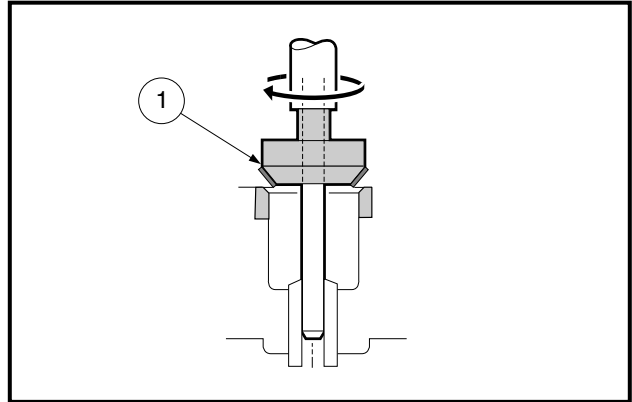

Figure 2-21 Resurface Valve Seat
2. Recondition the valve seats with a valve seat cutter (1) (45° x 32 mm exhaust seat CCI P/N 1016553, 45° x 35 mm intake seat CCI P/N 1016554) (**Figure 2-21, Page 2-13**).
- 2.4. Resurface the valve seats with 45° cutter (1) (32 mm exhaust seat), and (35 mm intake seat) cutters, removing only enough material to produce a smooth and concentric seat (**Figure 2-21, Page 2-13**). See following **CAUTION**.
- 2.5. Use a 30° x 35 mm seat cutter (1) (CCI P/N 1016554) to narrow the seat width to the standard width (**Figure 2-21, Page 2-13**). See following **CAUTION** and **NOTE**.